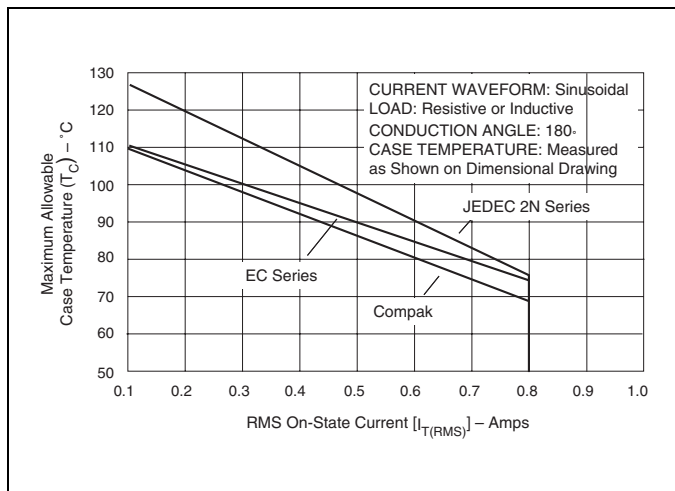
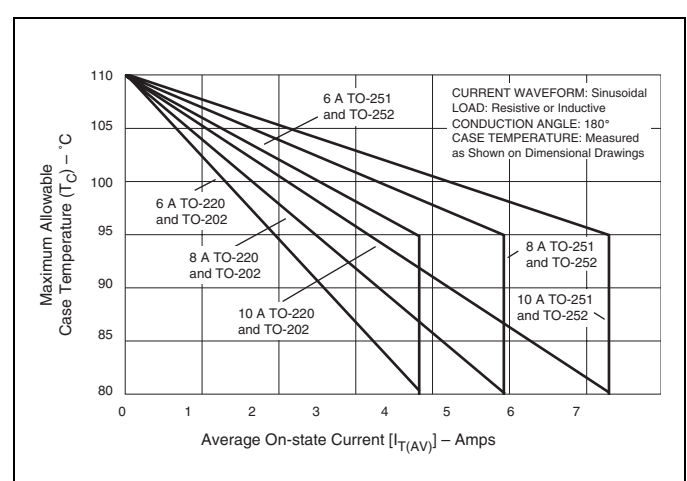
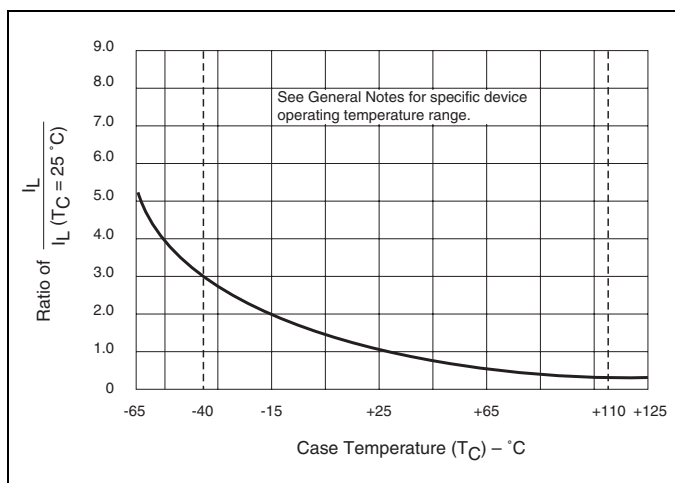

Figure E5.1 Maximum Allowable Case Temperature versus RMS On-state Current
Figure E5.9 Maximum Allowable Case Temperature versus Average On-state Current
Figure E5.18 Normalized DC Latching Current versus Case Temperature
- (1) See Figure E5.1 through Figure E5.9 for current ratings at specified operating temperatures.
- (13) See Figure E5.1 through Figure E5.9 for maximum allowable case temperature at maximum rated current.
- (14) $I_{GT} = 500 \mu\text{A}$ maximum at $T_C = -40^\circ\text{C}$ for T106 devices
- (15) $I_H = 10$ mA maximum at $T_C = -65^\circ\text{C}$ for 2N5064 Series and 2N6565 Series devices
- (16) $I_H = 6$ mA maximum at $T_C = -40^\circ\text{C}$ for T106 devices
- (17) Pulse Width $\leq 10 \mu$ s
- (18) $I_{GT} = 350 \mu\text{A}$ maximum at $T_C = -65^\circ\text{C}$ for 2N5064 Series and 2N6565 Series devices
- (19) Latching current can be higher than 20 mA for higher I_{GT} types. Also, latching current can be much higher at -40°C . See Figure E5.18.
- (20) T_C or $T_L = T_J$ for test conditions in off state
- (21) I_{DRM} and $I_{RRM} = 50 \mu\text{A}$ for 2N5064 and 100 μA for 2N6565 at 125 °C
- (22) TO-92 devices specified at -65°C instead of -40°C
- (23) $T_C = 110^\circ\text{C}$